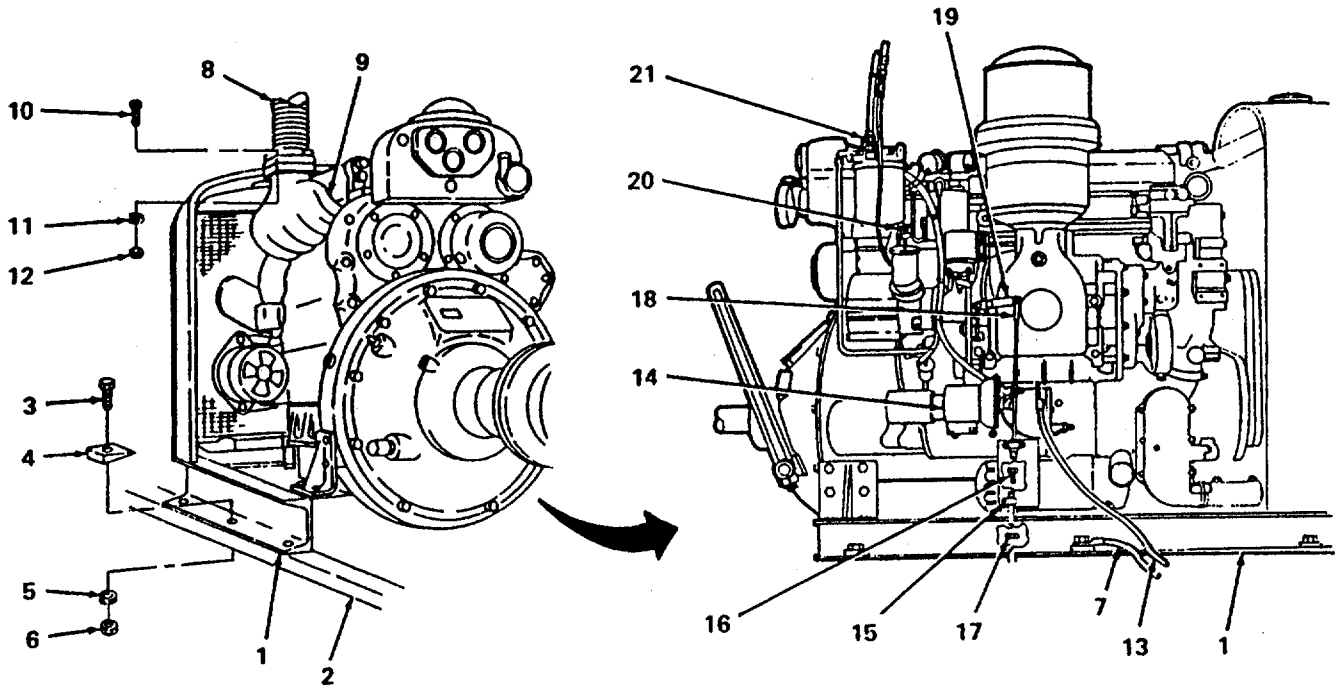

Figure 5-8. Engine Installation.
- (b) Position engine frame (1 figure 5-8) on mounting (2) and install six screws (3), six bevel washers (4), six lockwashers (5) and six nuts (6). Install negative ground cable (7) under attaching hardware.
- (2) Connect exhaust pipe.